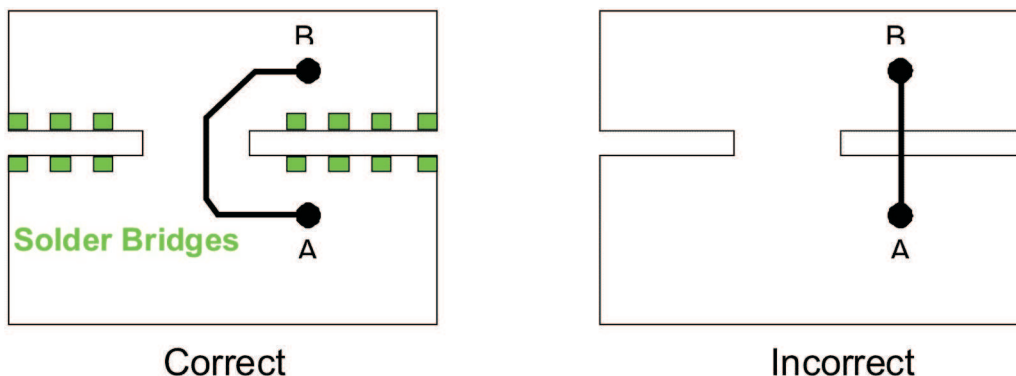

Figure 4. Signal Traces Crossing the Gap of Ground Plane
- Do not run any signal across the gap of a split ground plane. The analog ground and the digital ground should be connected at one point and all the traces commuting between the analog and digital region should be routed over this bridge point as shown in the left part of Figure 4. By doing this, the current returns directly underneath/above each trace and the current loop area is minimized. A high frequency signal cross the gap like the right part in Figure 4 can generate both signal integrity problems (discontinuities) and EMI problems. Even if it is low frequency or DC signal, it might also carry high frequency noise due to the on board and on-chip coupling.
- Please reserve a few solder-bridges along the gap (every half inch) of the ground plane as shown in the left part in Figure 4. You can connect them in case the ground gap brings problems into your system.